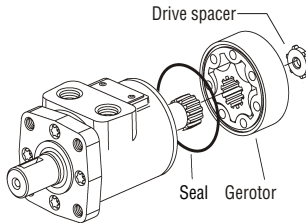

Figure 5-22, Gerotor
4. Remove the gerotor and the drive spacer (if applicable). The seal on the gerotor can now be serviced. (Figure 5-22)